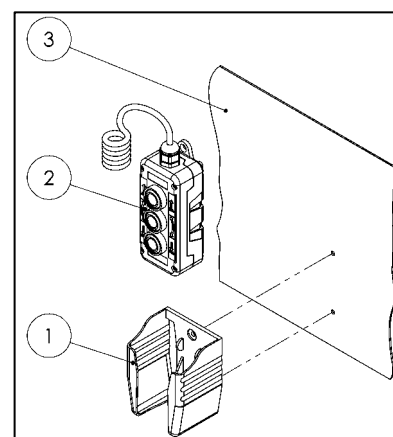

Fig. 46
- Mount the bracket (1) for the handheld control (2) on the vehicle wall (3) using, for example, 2 screws or adhesive (see Fig. 46).